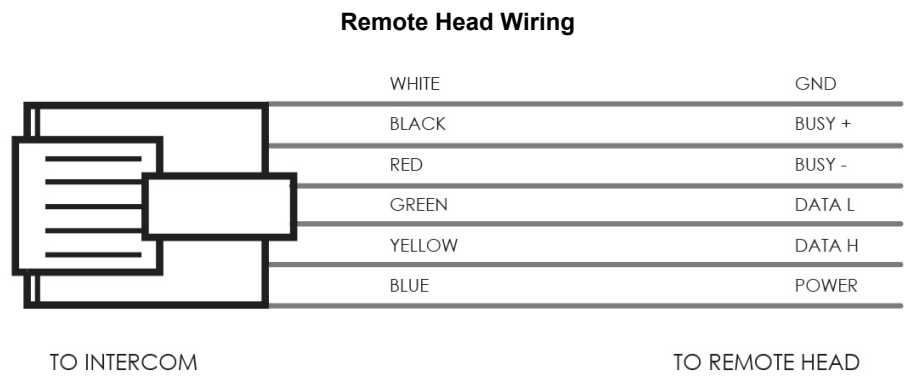

FIGURE 9: Modular Plug Wiring (tab down orientation)
Up to five remote heads can be used to control a digital intercom. To install multiple remote heads, contact Firecom for a 'Y' adapter (PN: 108-0066-00), or splice multiple CA Cables together. Refer to Figure 9 for wiring diagram.
2. Inspect the CA cable plug end to insure the plug is wired correctly (Figure 9)